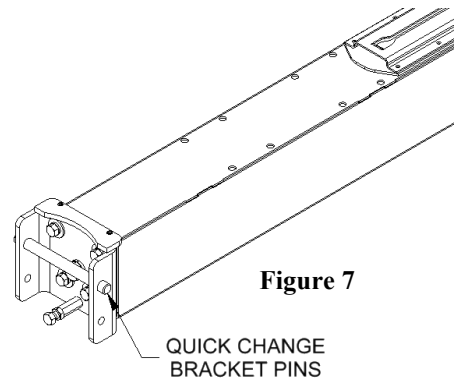

Figure 7
9. Position the backboard and goal assembly with the slots of the Quick Change bracket onto the Quick Change Bracket Pins on the main boom as shown in figure 7,8, and 9. Slide the board assembly completely onto the pins and insert the Quick Change Locking Rod, item 8, through the slots and holes in the board and boom brackets. Secure the locking rod with the Hitch Pins, item 7.